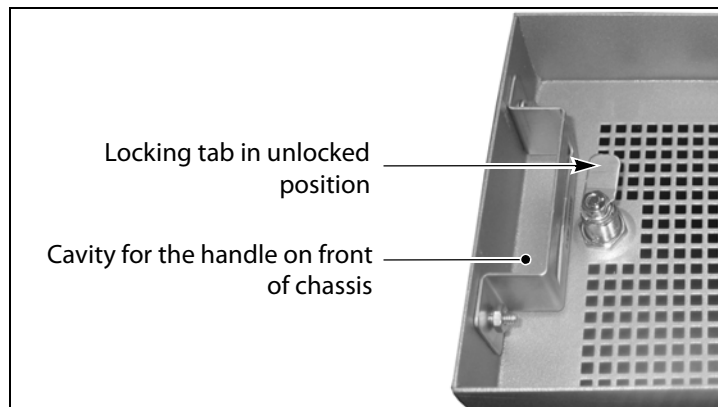

Figure 13 Set the locking tab to the unlocked position.
- a.** While holding the keys in place, orient the cover so that the chassis handles fit into the cavities on each side of the cover (see Figure 13 on page 17).